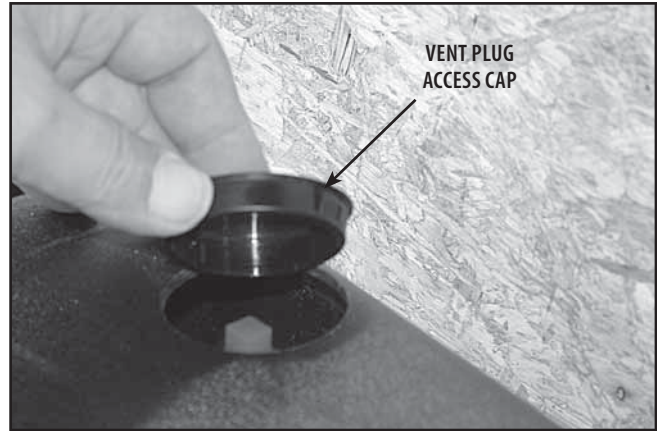

FIGURE 5.16
1. With table in the Up position remove the Vent Plug Access Cap from the Hydraulic System Cover. See Figure 5.16.